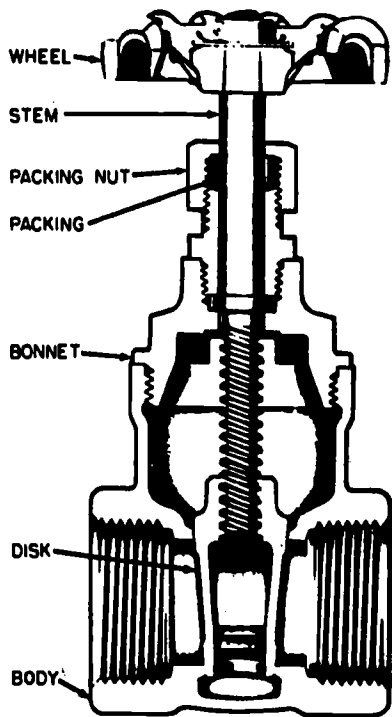
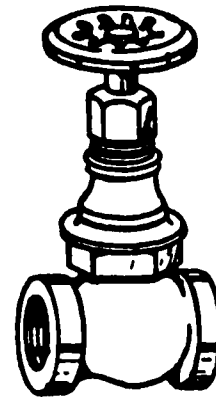

Fig 1-30. Gate valve (cutaway).
Fig 1-31. Gate valve.
- **Gate valve:** This type valve is used to stop or start the flow and should be either fully opened or fully closed. Gate valves can be installed without regard to the direction of flow, although some valves must be installed with regard to the direction of flow. Figure 1-30 shows a cutaway view of a typical gate valve. The flow of water is stopped by turning the stem clockwise. This turning action screws the wedge down through the flow until the wedge reaches the seat at the bottom of the valve. The seat is the name given to the place where the wedge meets the bottom of the valve and stops the flow. Figure 1-31 shows the outside view of a gate valve. As you can see from the figures, these valves can be taken apart and repaired, if necessary. If a leak develops in the gate valve, it can usually be stopped by slightly tightening the packing nut (fig 1-30). If this is not sufficient, the valve packing may need to be replaced. The valve packing is a graphite or asbestos based fiber cord. When the packing nut is screwed down (tightened), the packing forms a watertight seal around the stem. It is not recommended that you, as a basic plumber, overhaul these although you certainly can replace the packing. Seek experienced advice before dismantling or adjusting the valve as you may damage it.